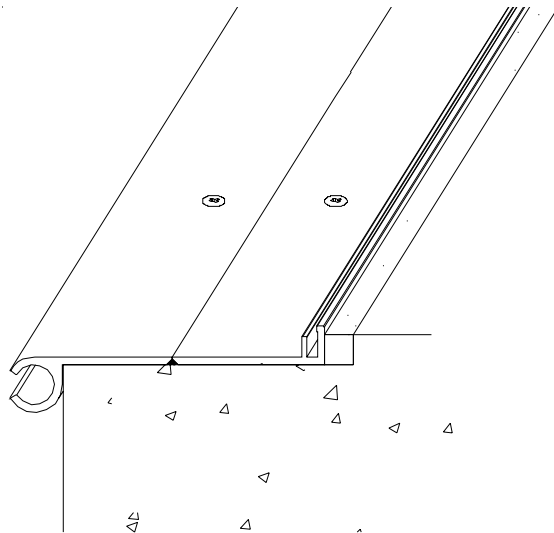

Figure 7
STEP 11. Place grout (by others) continuously between the base members and the blockout (see Figure 7). Install the grout in accordance with the grout manufacturer's written instructions. Remove all excess grout from the exposed surfaces of the aluminum extrusions before the grout sets up.